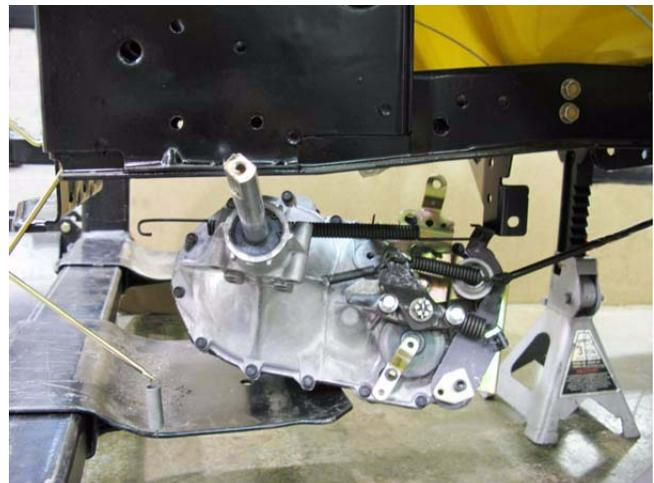

Figure 5.80
16. Carefully lower the transaxle out of the tractor. See Figure 5.80.